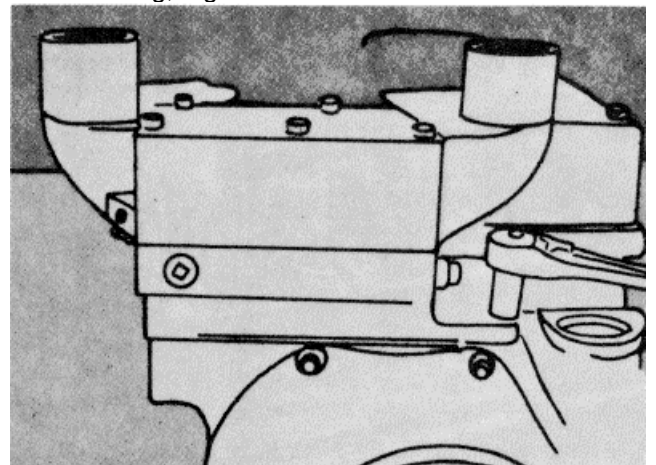

Figure 16B-34. Remove the Thermostat Housing
9. If the fan hub has not been removed, cock the thermostat housing enough to clear the hub support. Pull the thermostat housing and transfer tube from rocker housing, Figure 16B-34.